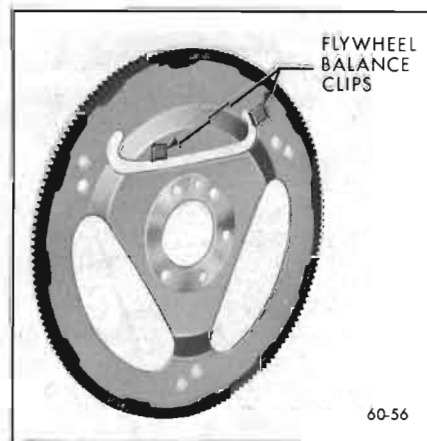

Figure 60-56—Automatic Transmission Flywheel Balance Clip Locations
0.666 that will serve as balance weights for automatic transmission flywheels. These clips are secured by their clamping pressure and a series of indentations stamped into the flywheels. See Figure 60-56 for clip installation locations.